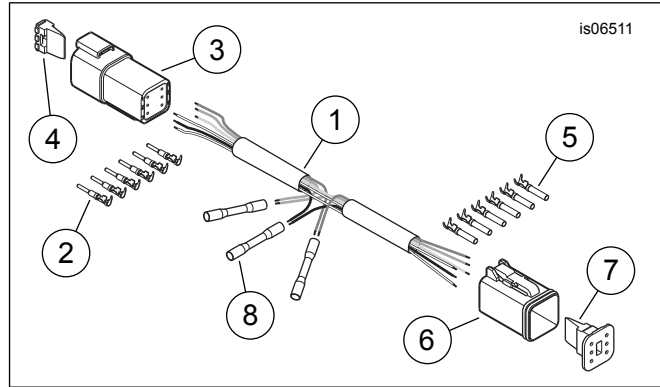

Figure 1. Service Parts, Electrical Connection Harness
See Figure 1 and Table 1.
5. See Figure 1. Cut the wires of the accessory (or accessories) to a suitable length to easily reach the sealed splice connectors (8) on the Electrical Connection Harness.